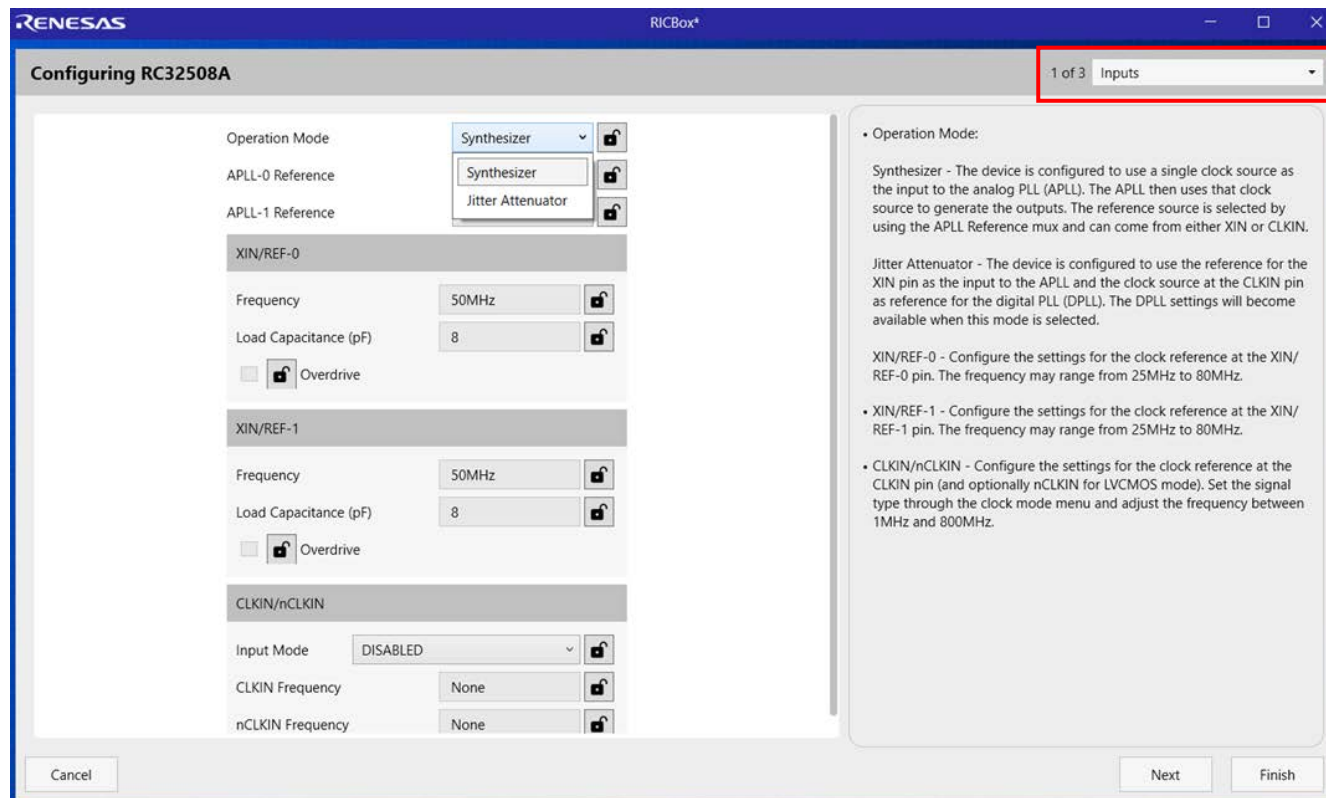

Figure 10. Wizard Page Navigation Window
1. When creating a new configuration, the wizard page is the first screen to appear (see Figure 10). The wizard contains a pull-down list of configuration pages (located in the upper right-hand corner of the window) pertaining to different sections of the device that require overall configuring.